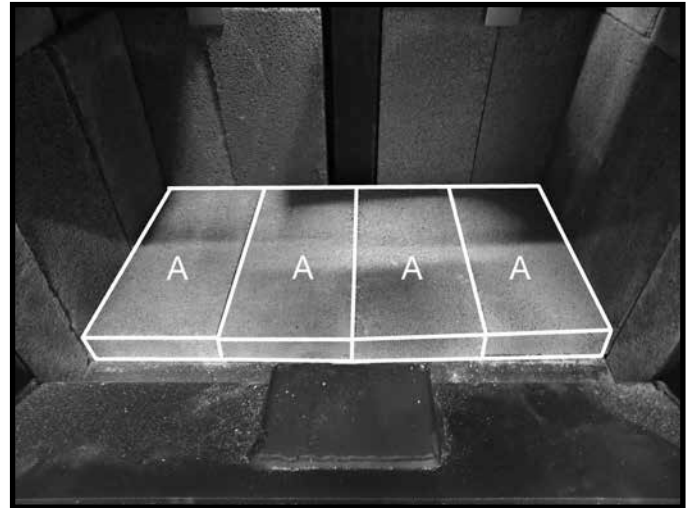

Figure 30: Four floor bricks in place.
7. Place four "A" firebricks on the firebox floor as shown in Figure 30.